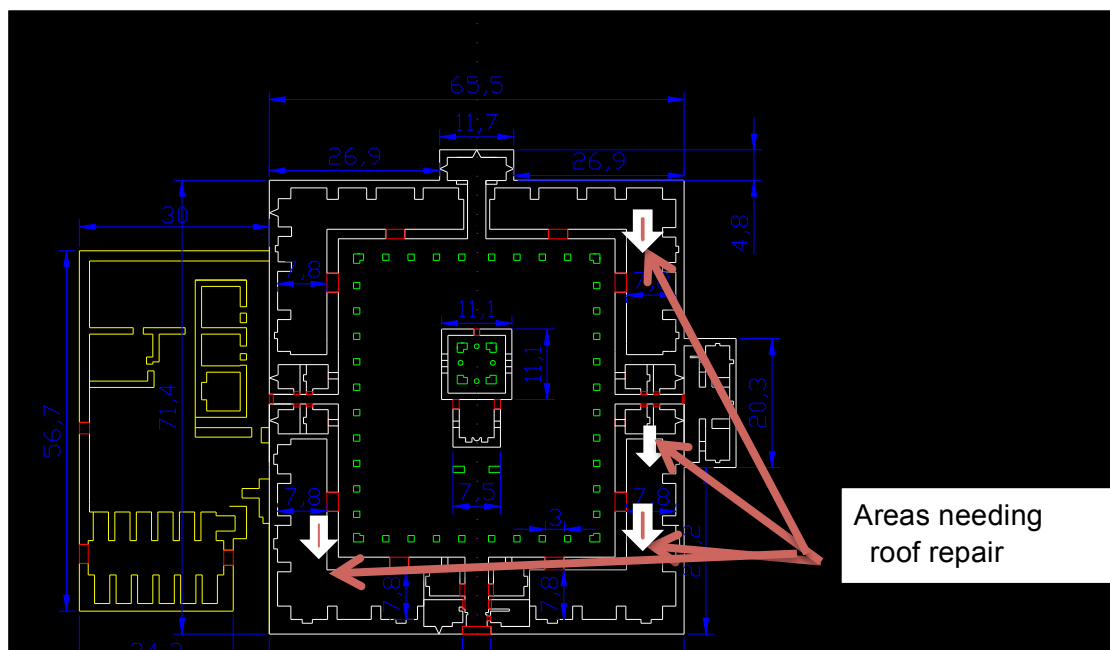

Figure 3: Plan of the museum showing the areas on the roof in need of urgent repair.
2. Repairing the parts of the roof that are leaking to prevent collapse (see fig 3, 6 and 7).
Repairing the parts of the roof that are leaking to prevent collapse (see figs 3, 6 and 7).